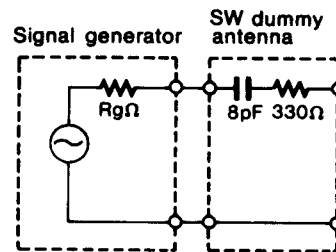

Fig.5
- SW. dummy antenna is shown in Fig. 5.